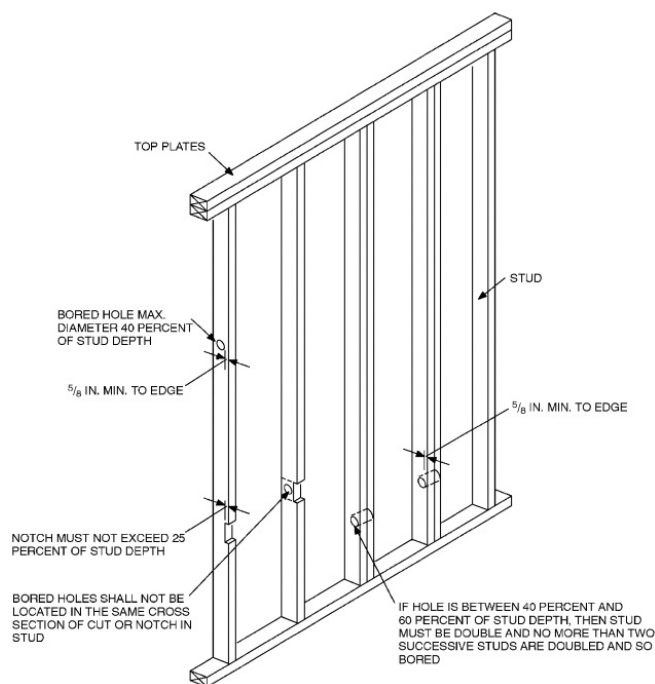

Fig 2: Notching and bored hole limitations for exterior walls and bearing walls
- Stud spacing, notching and boring per Table 2 and Figures 2 and 3.